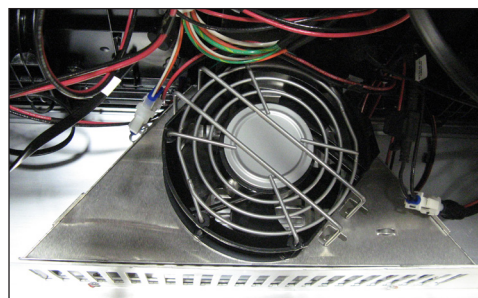

Figure 27: Display Fan
2. Press on the finger guard legs and rotate to remove the fan. Refer to **Figure 27**.
6. Attach harness to the fan plenum using a cable tie. Refer to **Figure 27**.